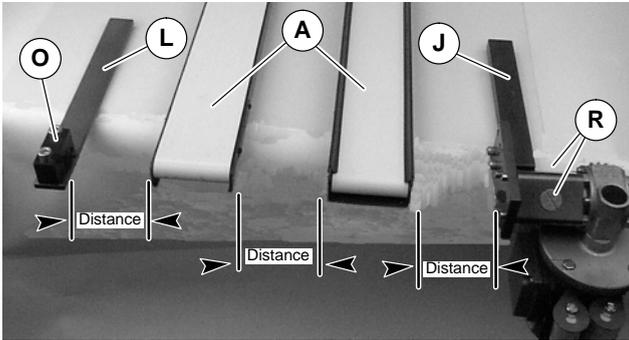

Figure 8
10. Align conveyors between gearmotor support assembly (J of Figure 8) and bearing support assembly (L).
**NOTE: Do not secure the conveyors (A of Figure 8) to mounting surface.**
11. Cut shaft cover (N of Figure 2) into pieces to match each distance (Figure 8) minus 1.5 mm.
12. Remove inspection plugs (R of Figure 8).